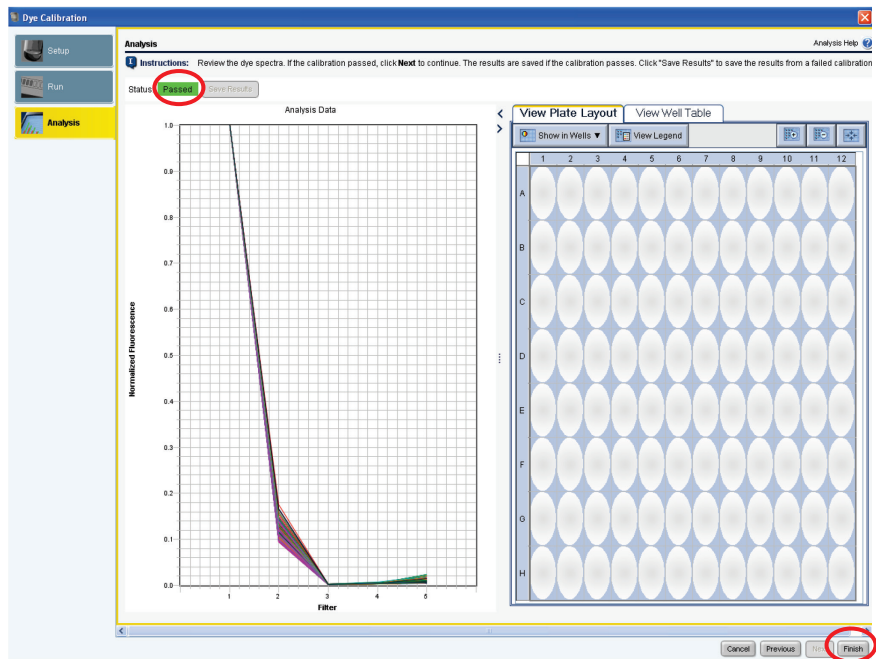

Figure 10. Display of dye spectra and status.
21. The spectra and the status (e.g., passed) will be displayed (Figure 10). Click **Finish**.